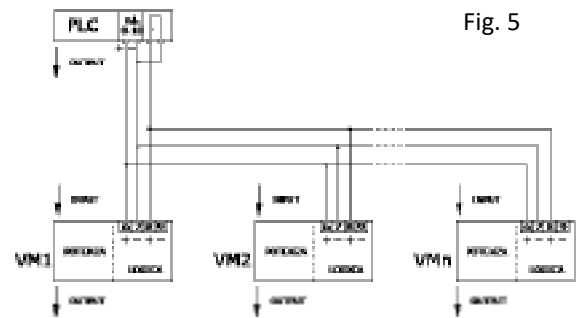
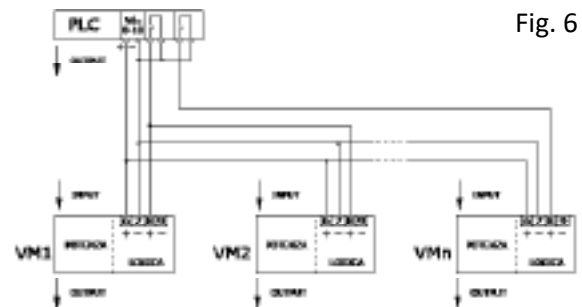

Fig. 5
Fig. 6
The power variators VM570 satisfy different control and driving solutions by properly arranging the micro-switches of K1, as shown in the table of *fig. E10*. Examples of connection with PLC are shown in figures 5, 6, 7. It is important to respect the polarity of the terminals of the variator. Terminal 6 must receive the positive (+) and terminal 7 must receive the negative (-). Terminals 7 and 9 are connected to each other inside the electronic card and make up the common (0V).
VOLTMETRIC DRIVING (*fig. 5, fig. 6*)
With a single analog output (0 - 10Vdc) you can control several power variators through the PLC by parallel-connecting the terminals of the set-point 6 and 7 as shown in the diagrams in *fig.5* and *6*. If the analog output can supply 10mA, you can control fourteen (14) variators at the same time. The table of *fig. E10* shows that each variator absorbs 0,6mA, calculating $10\text{mA}/0,6\text{mA}$ you obtain approximately 16 variators.